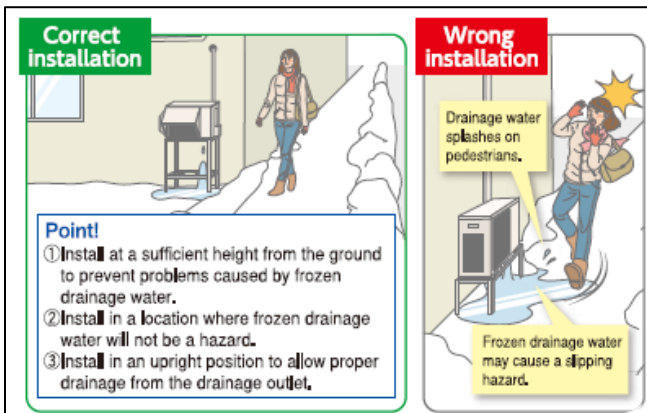

Figure 2: Precaution against installing units near walkways
- Use a stand with a steel framework to allow water to drain properly. If not done, condensate could freeze inside the outdoor unit and may cause damage to the unit. Also, the width of the stand must not exceed the width of the unit (**as per figure 2 below**).